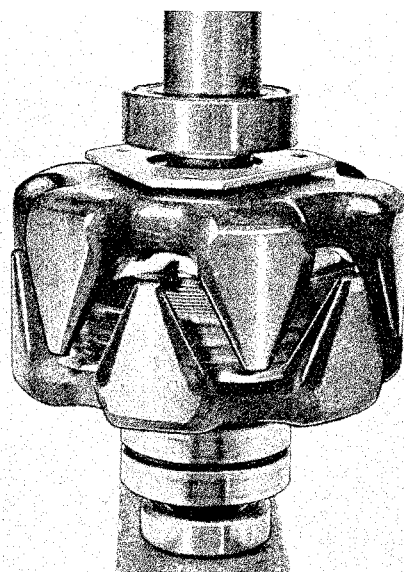

Fig. 3-17. Installing bearing
2. Press the bearing in with the help of a tubular sleeve which presses on the bearing inner ring, see Fig. 3-17.